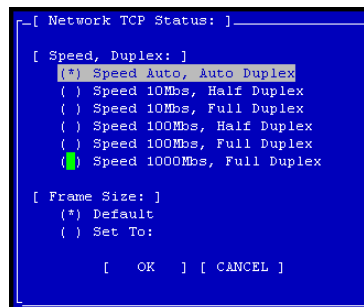

Figure 231. Setting the Speed, Duplex, and Frame Size
2. Tab to select the network interface for which you want to set the TCP speed and duplex and press Enter. The Network TCP Status window opens, shown in Figure 231.